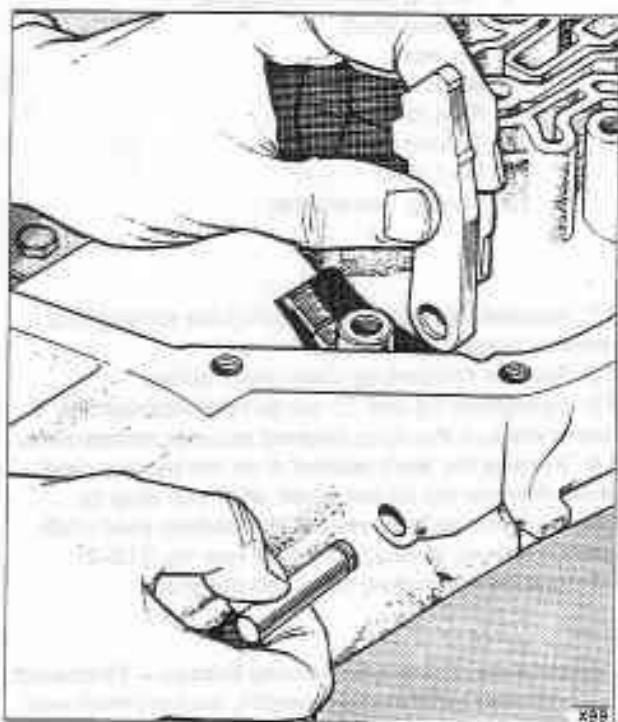

Fig. T18-3 Fitting the parking pawl and shaft
1. Fit the parking pawl with the tooth towards the centre of the transmission. Then, fit the parking pawl shaft and retainer (see fig. T18-3).